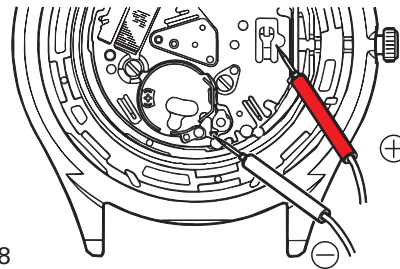

Fig. 28
- \* When measuring the voltage of the rechargeable battery, connect the (-) probe to the ⑦ RECHARGEABLE BATTERY UNIT SCREW and (+) probe to the ⑩ CIRCUIT BLOCK COVER as illustrated in Fig. 28.
- 1) Measure the voltage of the rechargeable battery before recharging (please refer to Fig. 28 of page 15 for where to apply the probes of the tester).